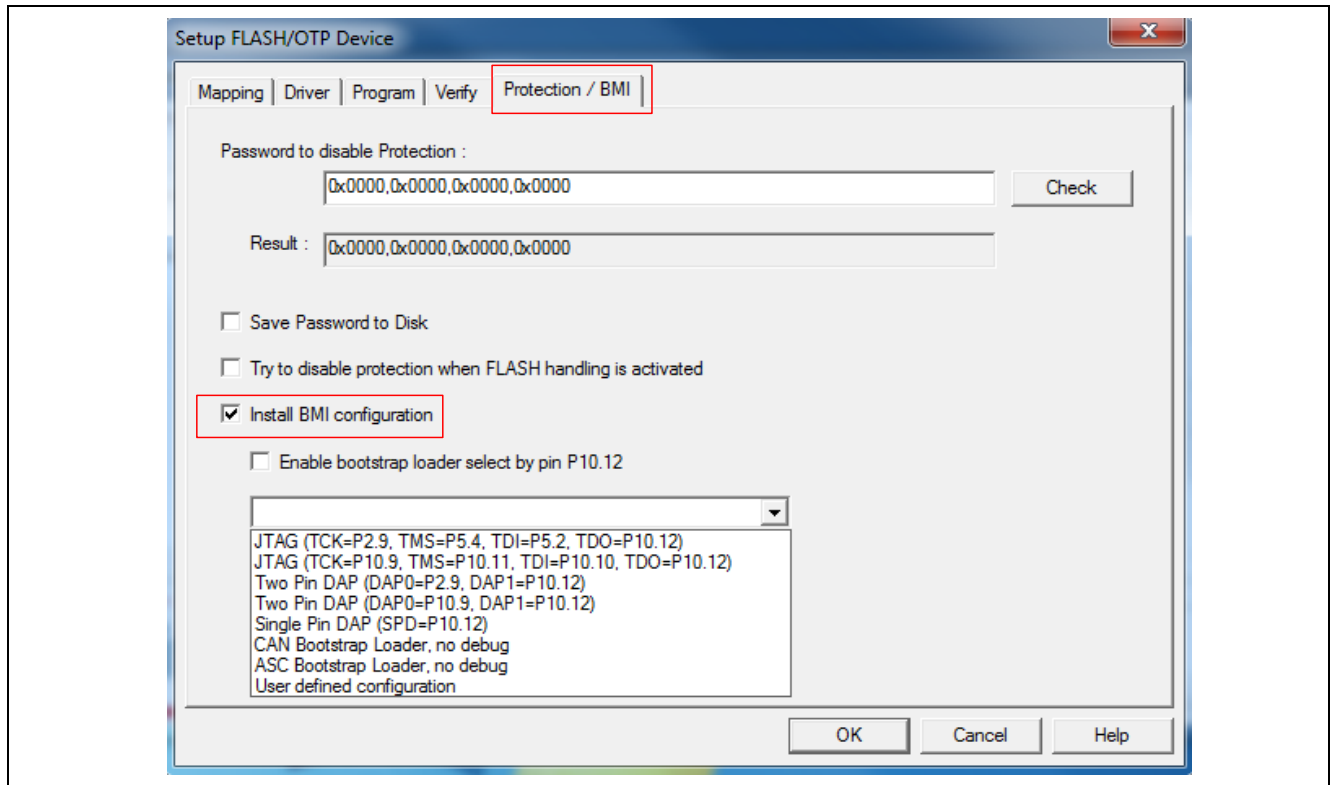

Figure 2 Setup Window in MemTool
- In the **Setup** window, select the **Protection/BMI** tab and check the **Install BMI configuration** box (Figure 2)